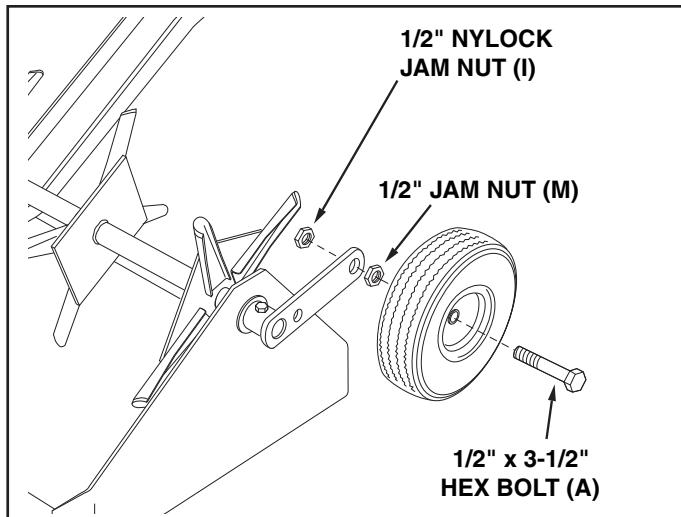

FIGURE 10
16. Assemble a wheel to a wheel bracket as shown in figure 10. Use a 1/2" x 3-1/2" hex bolt, one 1/2" hex jam nut, and one 1/2" hex nylock jam nut. Adjust the nuts so that the wheel is held securely but will spin freely. Repeat on other side. See figure 10.